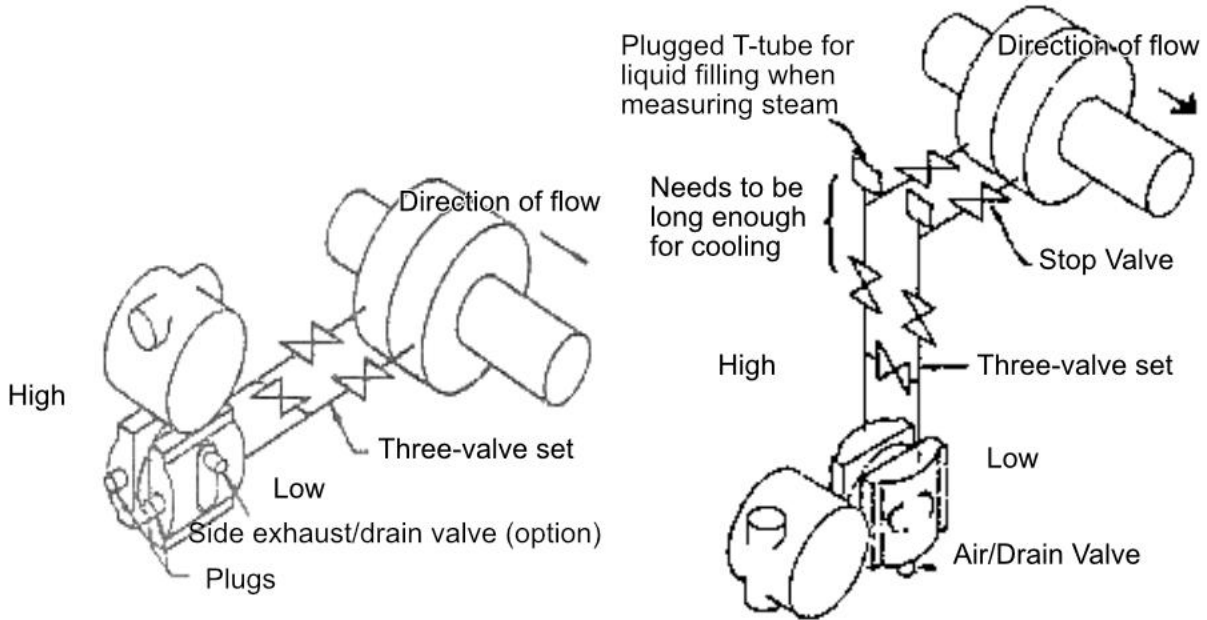

Figure 2.4 Schematic diagram of liquid medium connection. Figure 2.5 Schematic diagram of steam medium connection
**When measuring the pressure of liquid medium**, the pressure tap must be selected on the side of the process pipeline to avoid slag deposition. The intelligent transmitter should be installed below the side pressure port so that the gas can be discharged into the process pipeline, as shown in Figure 2.4.